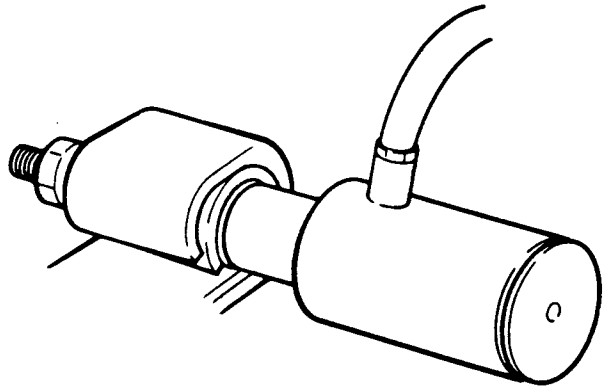

Fig 15.3
- (6) Refer to Fig 15.3 which shows the use of the special tool.
- (7) If necessary, remove the shackle bush from the chassis frame bracket with the aid of a tubular drift or suitable extractor. If the bush disintegrates, leaving the outer casing in the chassis frame bracket, it should be carefully sawn through with a hacksaw to facilitate removal. DO NOT saw the chassis bracket.